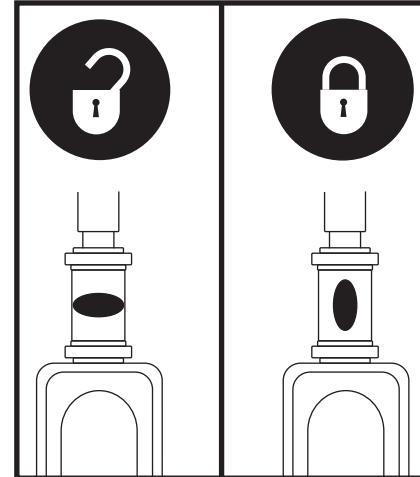

Figure 19. Tiller Lock Knob
1. Remove the key from the key switch and then lock the tiller in the straight ahead position by pushing the tiller lock knob in and turning it clockwise 90°. See **figure 19**. The front wheel must face forward in order to lock the tiller.
- Unlock the tiller by turning the tiller lock knob 90° counterclockwise. **See figure 19.**